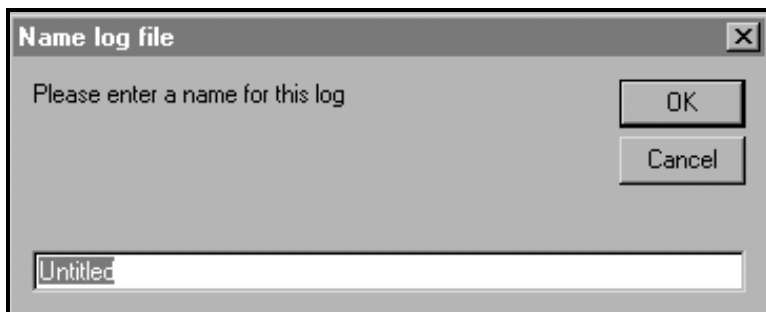

Figure 62: The Save As Dialog Box
- Click on the “Save As” menu option to save the data collected during the graphing process as a log file. The dialog box shown in Figure 62 on page 84 appears. Enter a name for the log file and click on the [OK] option button to save the file as